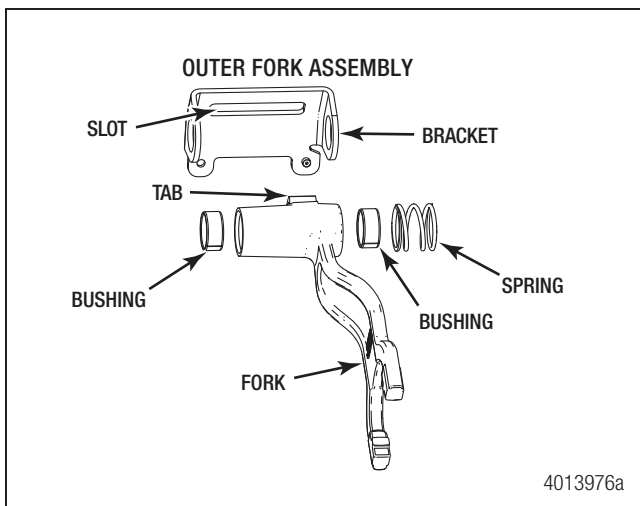

Figure 6.12
2. To disassemble the outer shift fork assembly, remove the spring, two bushings and shift fork from the shift bracket as shown. Label the parts and keep the shift fork assembly parts separate to avoid confusion during reassembly. Figure 6.12.